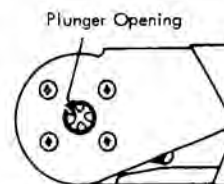

Figure 46. Adjusting Ratchet for Crimping Depth
5. Adjust limit screw so GO drill will easily slide in plunger opening (Figure 46) and the NO-GO drill will not.